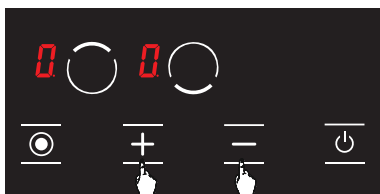

Figure 12
2. Using the **+** and **-** keys, bring the temperature on all hobs to **0**. (see Fig. 12) Stove shall be turned off by itself after 20 seconds.